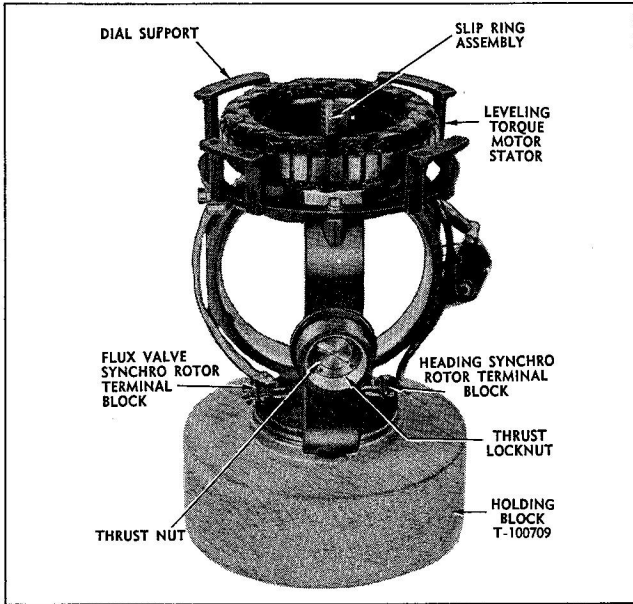
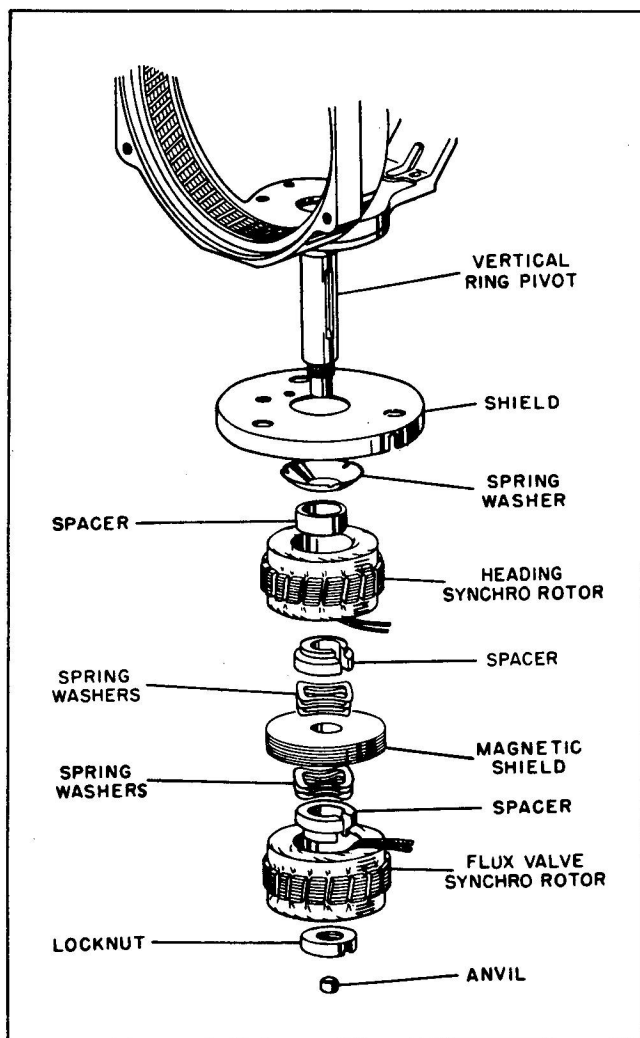

Figure 2-21 Vertical Ring Assembly in Holding Block T-100709 with Synchro Assembly Down
Figure 2-25. Exploded View of Synchro Rotor Assembly
- (1) Place the vertical ring assembly in Holding Block T-100709 with the slip ring assembly up. (See figure 2-21.)
- (2) To remove the compass synchro rotor, unsolder the red and black leads at the compass synchro rotor terminal block. (See figure 2-21.)
- (3) If the yaw synchro rotor is to be removed, also unsolder the yellow and green leads at the yaw synchro rotor terminal block. (See figure 2-21.)
(4) Reverse the vertical ring assembly and Holding Block T-100709 so that the slip ring assembly is down. (See figure 2-21.)
(5) Draw a pencil mark on the vertical ring opposite the yellow dot on each of the rotor windings. This will make it easier to position the rotor windings when they are replaced.
(6) Using Spanner Wrench T-100695 (figure 4-24), loosen and remove the locknut from the vertical ring shaft. (See figure 2-25 for exploded view of synchro rotor assembly.)
(7) Lift off the top rotor (compass synchro) carefully and pull the two rotor leads through the center of the vertical ring shaft.
(1) Remove the dial support (figure 2-21) by removing the three binding head screws and lockwashers which hold the bracket to the vertical ring.
(2) Unsolder the leads at the terminal on the under side of the stator. Make a sketch of the color coding of the wires and terminals prior to unsoldering.
(3) Pull the stator from the vertical ring.
(1) Make a sketch of the wiring color code at the slip ring assembly terminal block. Unsolder all the leads from the terminal block. (See figure 2-21.)
(2) Turn the vertical ring with the slip ring assembly upright as in figure 2-21 and remove the three flathead screws which hold the assembly to the vertical ring.
(3) Carefully push the slip ring assembly up from the bottom and remove it from the vertical ring.